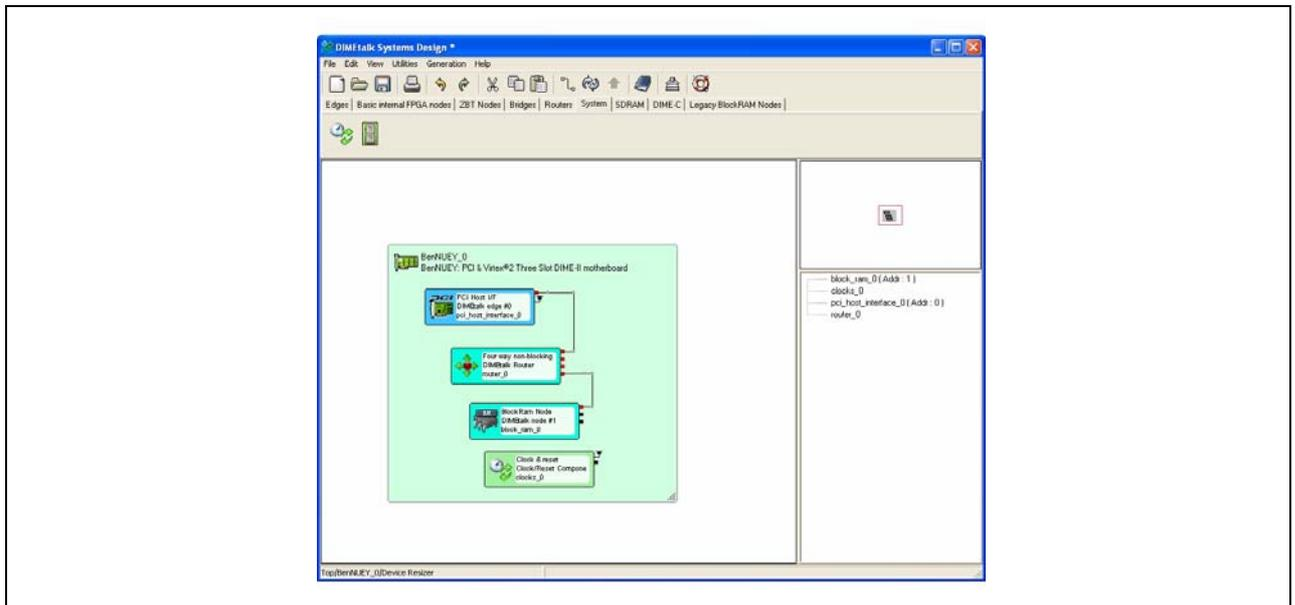

Figure 15: Clock & Reset Component
10. All FPGA devices need a component to handle clocking and resets. Go to the 'System' tab to select the Clock & Reset component and place it down on the device, then click on 'OK' as shown in **Figure 15**.